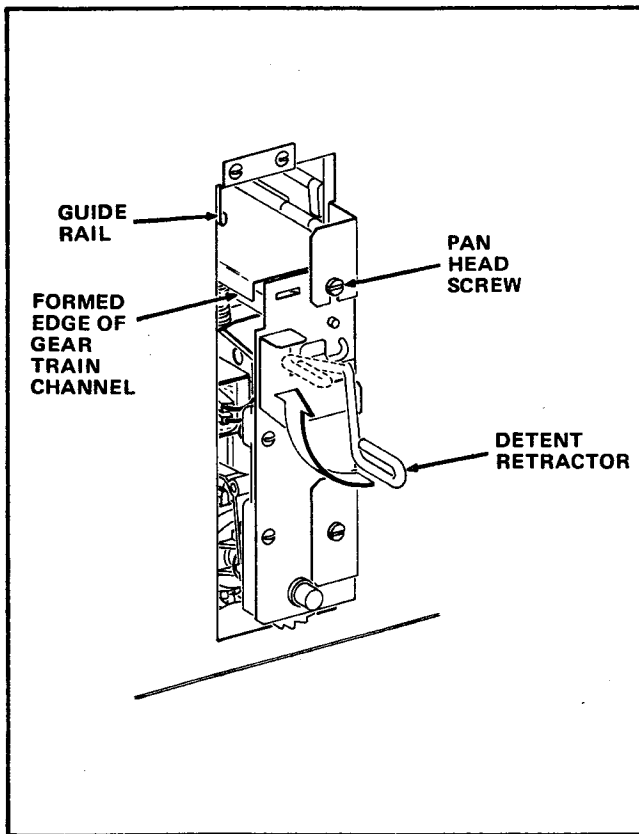

FIGURE 2
5. Grasp the Detent Retractor and rotate the Retractor upward until the Retractor locks into position horizontally. See Figure 2.
7. Carefully raise the Gear Train by grasping both ends and position the Formed Edge of the Gear Train Channel into the Guide Rail. See Figure 2.